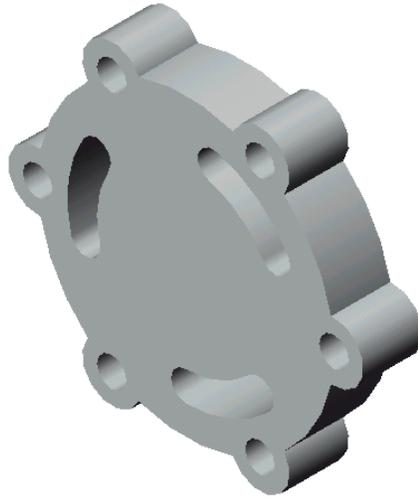

Figure 4-55 Final model for Tutorial 3
- c. Invoke the **Extrude Boss/Base** tool and extrude the sketch through a distance of 20mm, refer to Figure 4-55.
3. Choose the **Isometric** button from the **Standard Views** toolbar to change the view to isometric view. The completed model for Tutorial 3 is shown in Figure 4-55.